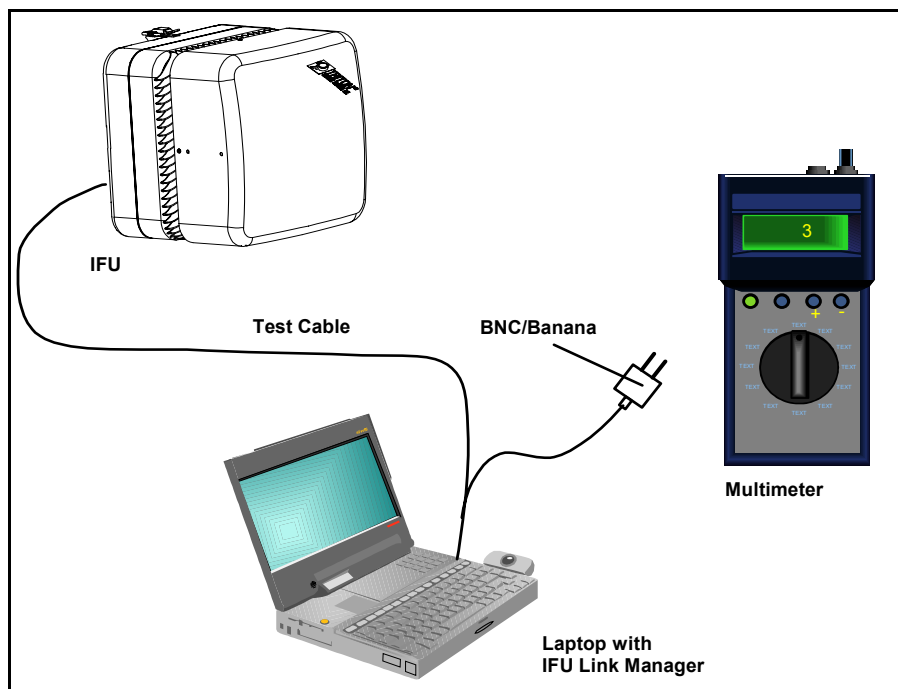

Figure 4-2. Alignment Test Setup
- 7 Connect the IFU test cable to the test port of the near-end IFU (see Figure 4-2).